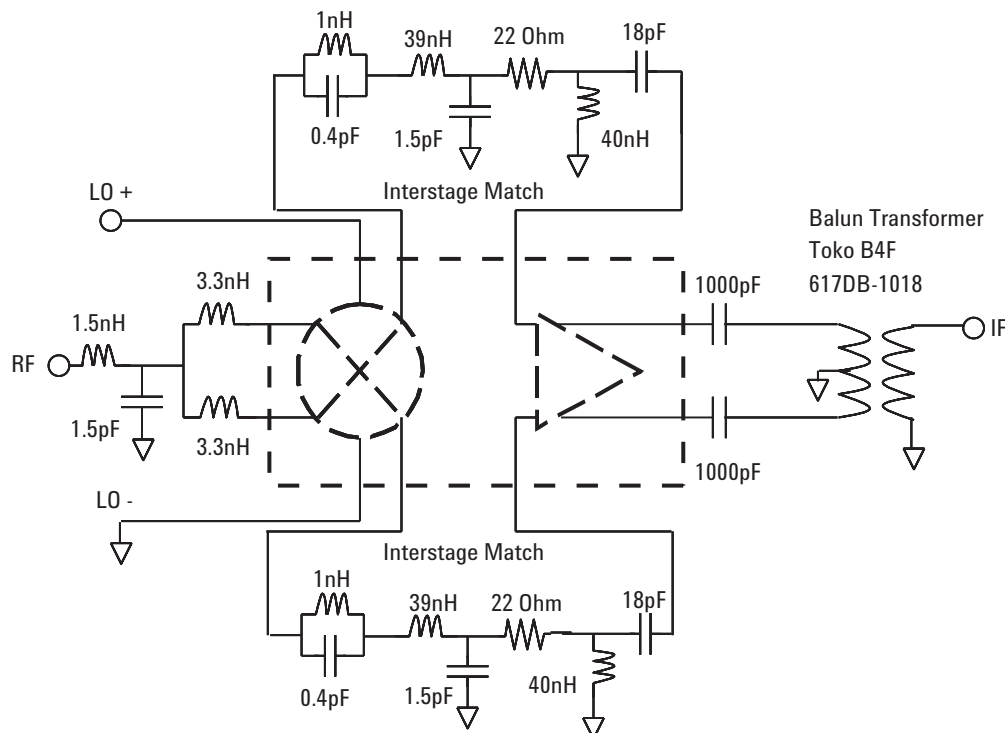

Figure 4. IAM-93516 demoboard schematic optimally tuned at $F_{\text{RF}} = 1.91\text{GHz}$ and $F_{\text{LO}} = 1.7\text{GHz}$
9. Results shown are based on Figure 4, which is optimally tuned for optimum conversion loss, IIP3, isolation and noise figure.